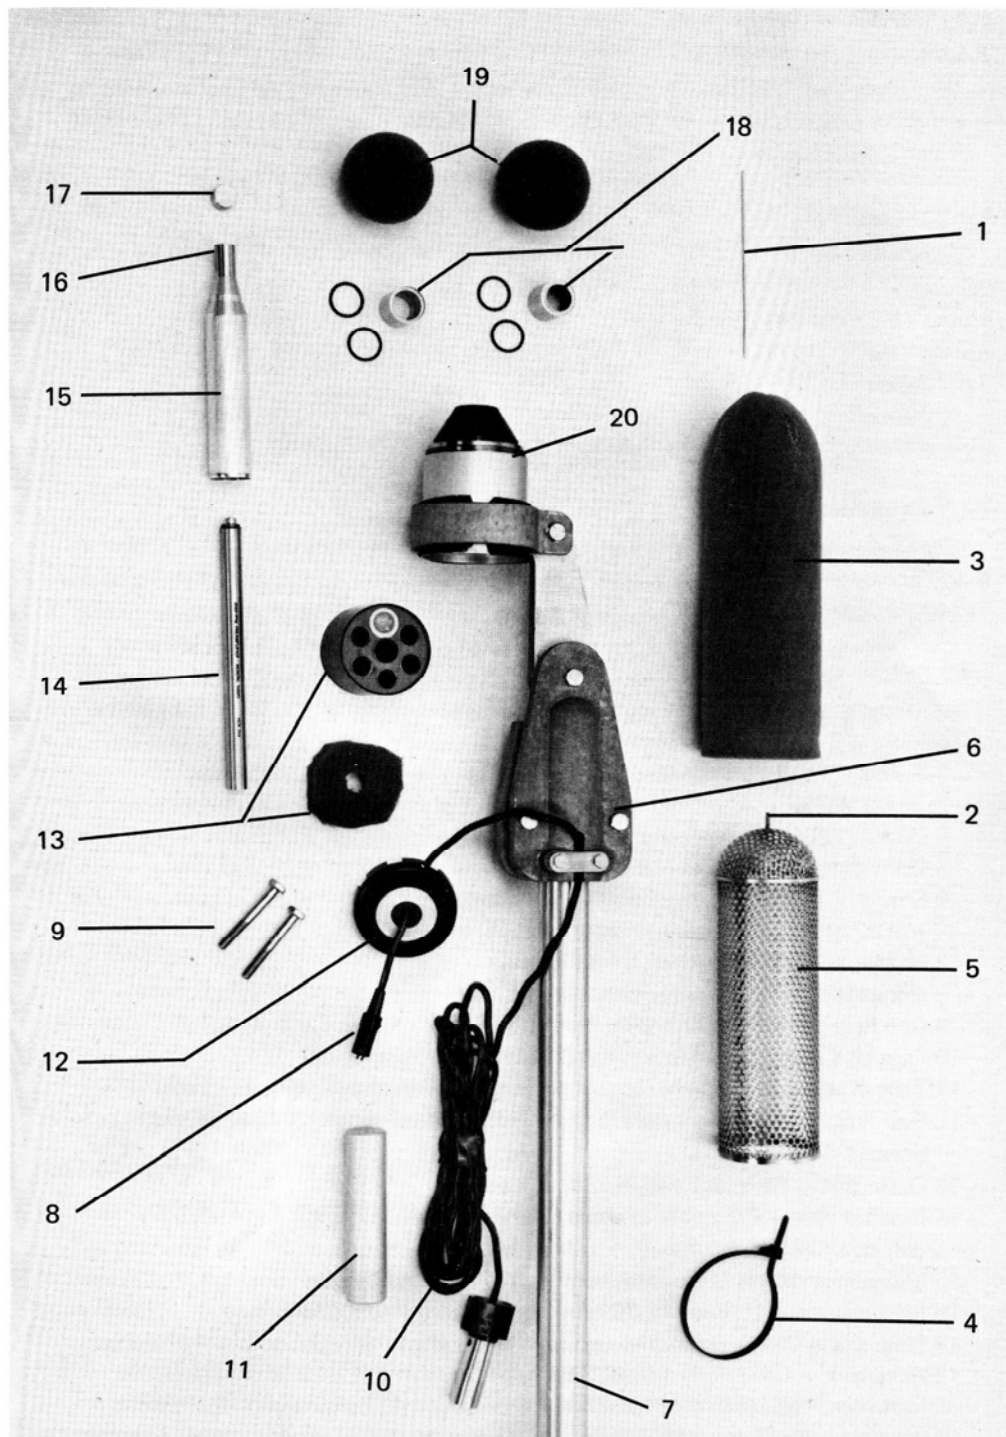

Figure 8-3. System Components.
Each operating 1945-9730 system consists of two functional units, the microphone/preamplifier assembly (See Figure 8-2) with its weatherproof housing and the mast (See Figure 8-3) with mounting hardware. All components are listed in Table 8-1. The microphone is not supplied but may be selected from those listed in Table 8-2.
Figure 8-1 illustrates the mast, with mounting hardware in position to hold the microphone assembly atop the supporting mast. Two cap screws (See Figure 8-3) are used to secure the assembly to the mast (supplied). Two longer cap screws are supplied for use with a 2-in. (50 mm) mast (not supplied).
All items are illustrated in Figure 8-3. The numbers refer to the identifiers in the figure.
a. Identify all components of the system before beginning the assembly procedure. Arrange parts in somewhat the same order as that shown in Figure 8-3. Refer also to Figures 8-1 and 8-2. The numbers in parentheses refer to the identifiers in Figure 8-3.
b. Select the output cable (10). Insert the smaller cable connector through the seal nut assembly (12), the desiccant cartridge and insulating pad (13). Attach connector (8) to preamplifier (14); observe positioning key on connector and preamplifier. On some models the insulating pad is attached to the housing assembly.
d. Hold housing assembly (20) in one hand and insert the preamplifier (14) into the large end of the housing.
e. Turn the microphone extender upside down to let the center pin drop down. Push the preamplifier (14) forward and thread into microphone extender (15). Thread other end of extender into housing assembly (20). The center pin should protrude about 1/8-in. (3 mm) from the extender.
f. Fit insulating pad (if not attached) and desiccant cartridge (13) into the housing assembly (20) and secure with the threaded seal-nut assembly (12).
g. At the base of the housing (20) pull the cable gently to make a good seal.
h. Thread the protective cap (17) or a 1/2-in. microphone (16) to the connector on the microphone extender (15). The 1/2-in. (12.70 mm) microphone does not require an adaptor.
i. If a 1-in. (25.4 mm) microphone is to be used, install the appropriate adaptor (18) with O-rings before installing microphone. (Refer to para. 8.8)
j. Install proper size windscreen (19).
k. Thread shield (5) to housing assembly (20). Pull on boot (3) and secure with boot clamp (4). Thread spike (1) into spike holder (2).